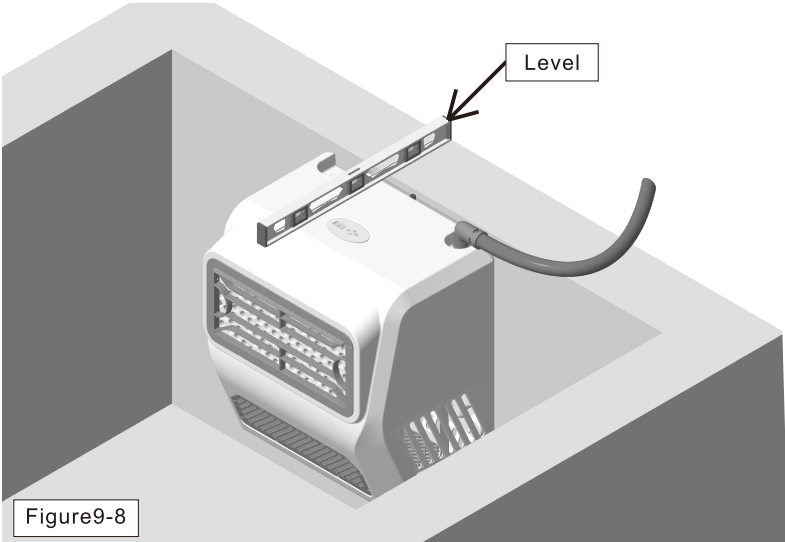

Figure9-8
6.As shown in Figure 9-8, using a level to measure whether the top surface of the unit is horizontal after the supporting screws are close to the pool wall.